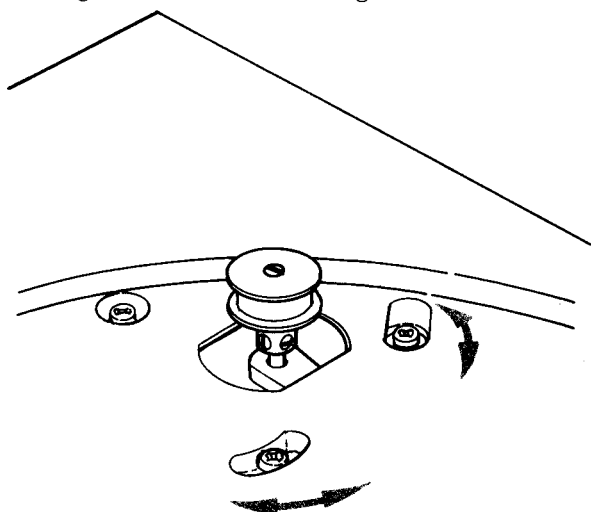

Fig. 3-3 Belt tension adjustment
1. Loosen the three mounting screws holding the motor-mounting bracket to the turntable base as shown in Fig. 3-3.